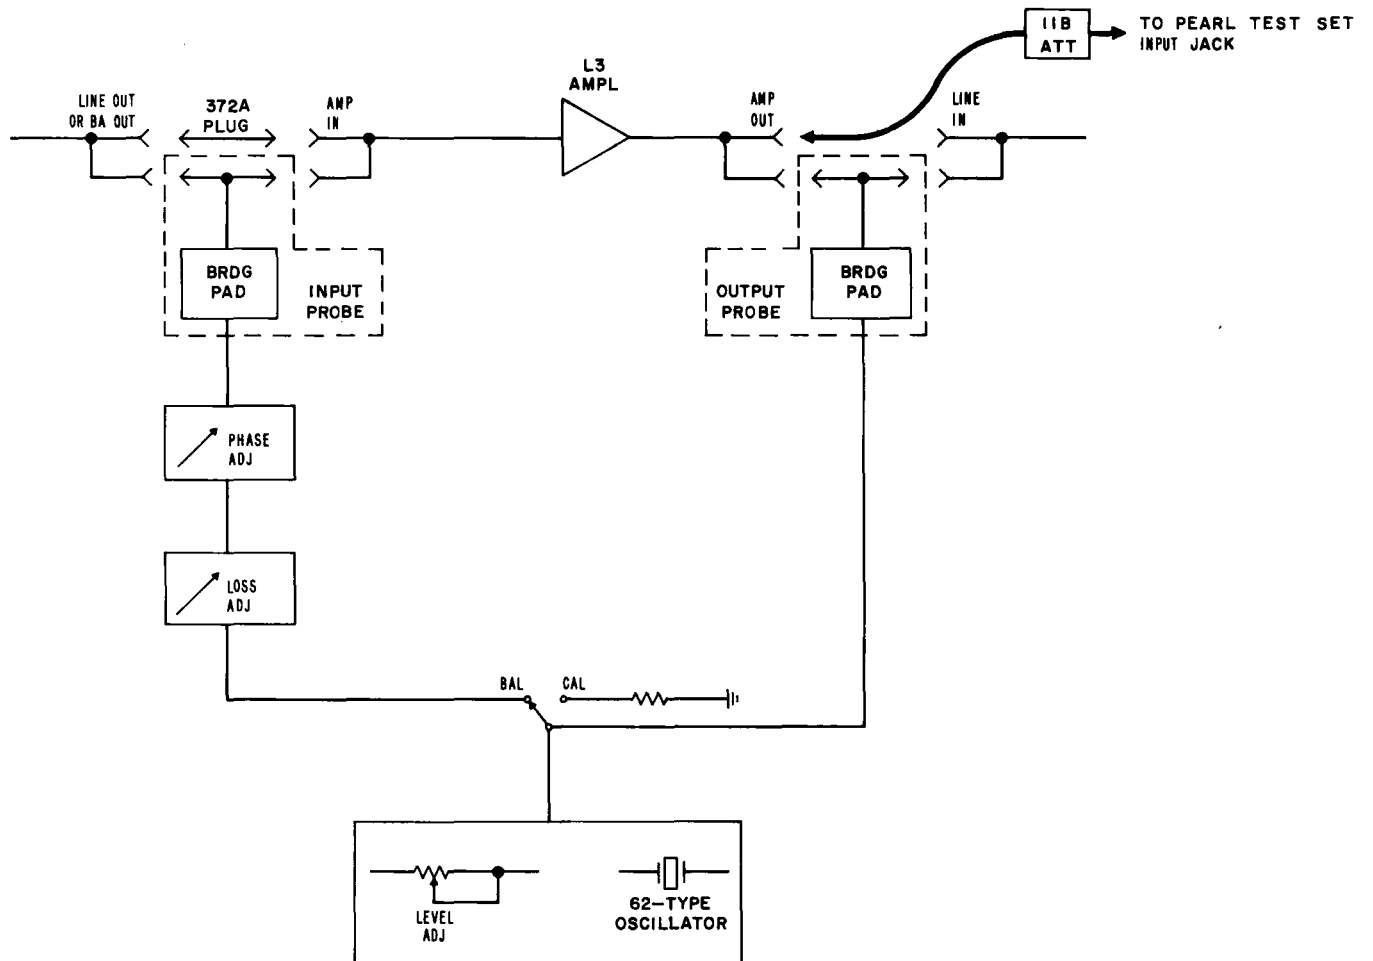

Fig. 1—PEARL Balance Adjustment
Performance evaluation of amplifiers at remote locations is accomplished from a main station by applying a discrete tone from a 62-type oscillator to each L3 amplifier installed in unattended repeater stations (Fig. 1). The oscillator tone level is adjusted for -20 dBm at the output of the amplifier under test, and the tone is then applied to the input and the output of the amplifier. Phase and loss networks inserted in the amplifier tone input circuit are adjusted to obtain optimum tone balance (approximately -85 dBm null) at the output. Adjustment of the PEARL circuit for a particular amplifier should be performed (a) upon initial installation of a PEARL circuit, (b) following replacement of an amplifier or its regulator, and (c) upon completion of the pilot and power survey at a repeater. Equipment may remain in service during adjustment.
Caution: Before proceeding to Step 2 and to prevent a service failure, the input and output probes of the PEARL circuit to be balanced must be correctly inserted in the AMP IN and AMP OUT jacks of the associated amplifier (Fig. 1).
- 2 At the amplifier under test, remove the 372A plug from the AMP OUT—LINE IN jacks; connect an 11B attenuator between the PEARL test set and the AMP OUT jack (Fig. 1).
5	On the 62-type oscillator, adjust the LEVEL ADJ control (Fig. 1). ♦Requirement: -20 dBm on the PEARL test set.♦